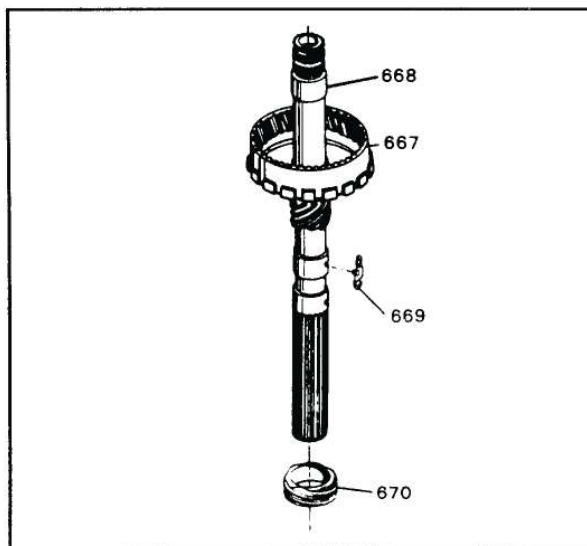

Figure 66
- Install speedometer gear clip in output shaft, as shown in Figure 66.
- Install speedometer gear on output shaft, and over the clip as shown in Figure 66.